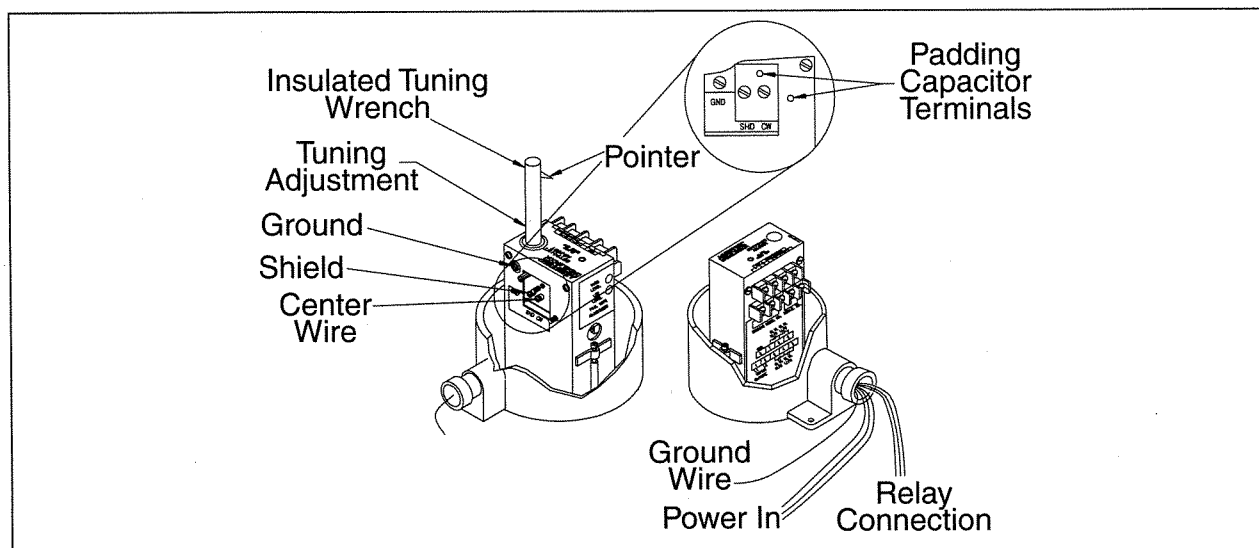

FIGURE 6-1
A. Disconnect the cable from the center wire (CW), Cote-Shield (SH), and ground (gnd) terminals at the instrument. Leave the power connected. See Figure 6-1.